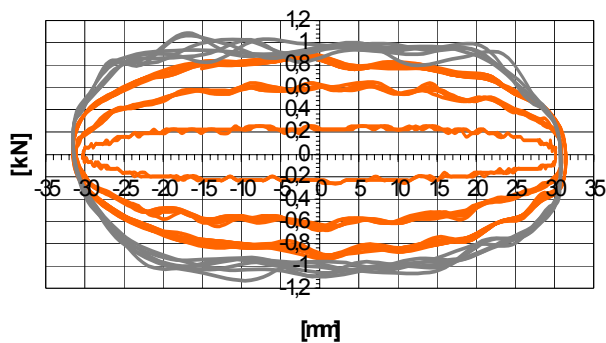

Fig. 54: Force-displacement-plot of damping element
- With special testing rigs the damping element is tested (Fig. 54).